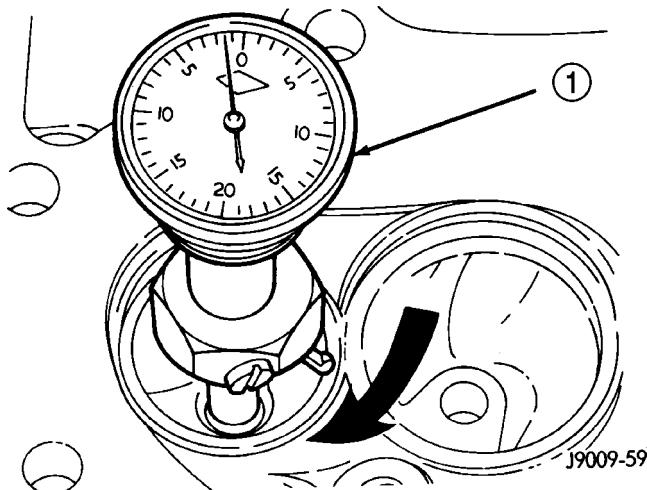

Fig. 30 Measurement of Valve Seat Runout
(2) Measure the concentricity of valve seat using dial indicator (Fig. 30). Total runout should not exceed 0.051 mm (0.002 in.) total indicator reading.
(3) Inspect the valve seat using Prussian blue to determine where the valve contacts the seat. To do this, coat valve seat **LIGHTLY** with Prussian blue then set valve in place. Rotate the valve with light pressure. If the blue is transferred to the center of valve face, contact is satisfactory. If the blue is transferred to top edge of valve face, lower valve seat with a 15 degree stone. If the blue is transferred to the bottom edge of valve face raise valve seat with a 65 degrees stone.